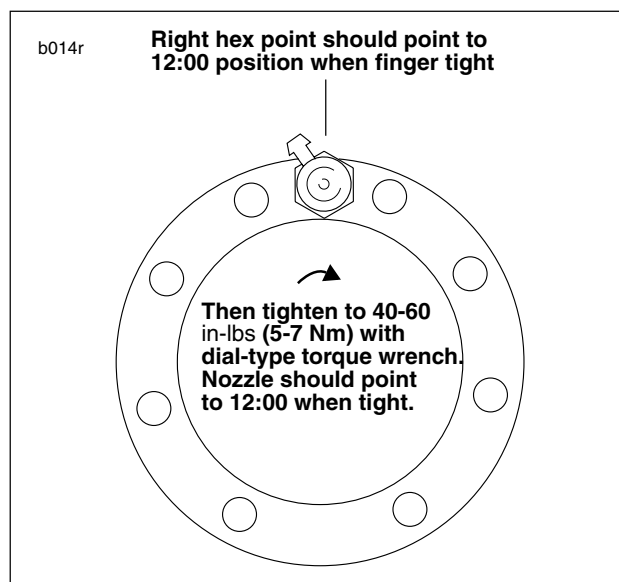

Figure 4-93. Fuel Tank Vent Alignment
6. See Figure 4-93. Align fitting so right front point of hex is oriented to 12:00 position when fitting is tightened finger tight. Make sure O-ring remains in groove of fitting while tightening.